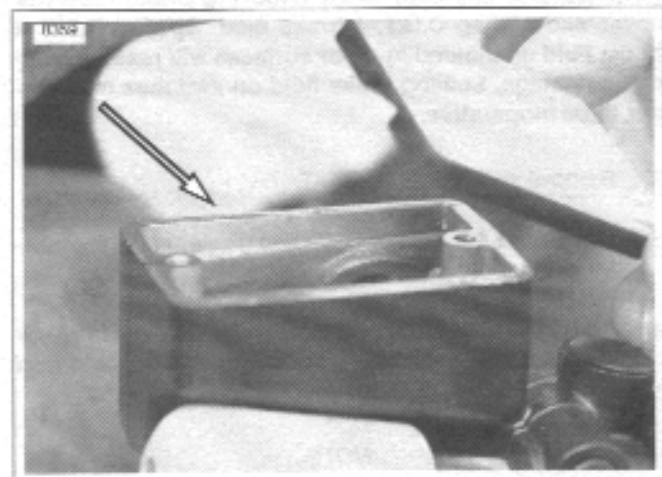

Figure 1-7. Front Master Cylinder Reservoir
3. See Figure 1-7. Remove two fasteners from front master cylinder cover.